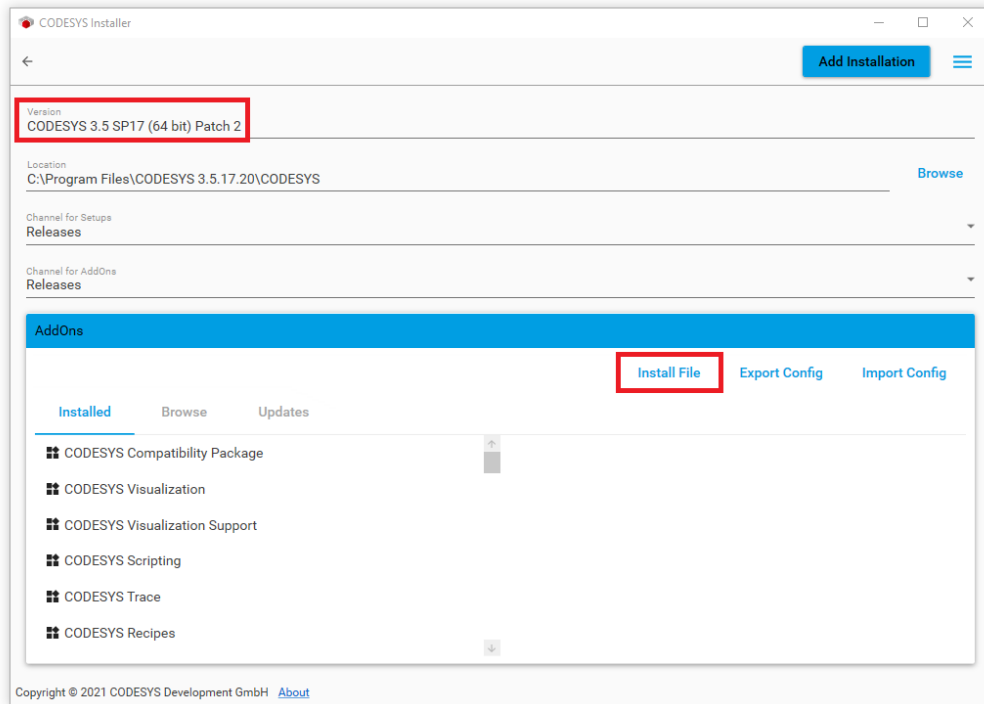

Figure 14.2: Installing the WEG package for CODESYS
- 5) A new window will open, where you can see the software version. Click on **Install File** and search for the PLC500 package downloaded from WEG's website. click on **OK** and then on **Continue**. The package will be installed. Figure 14.2 on page 14-3 shows the screen with the mentioned data.